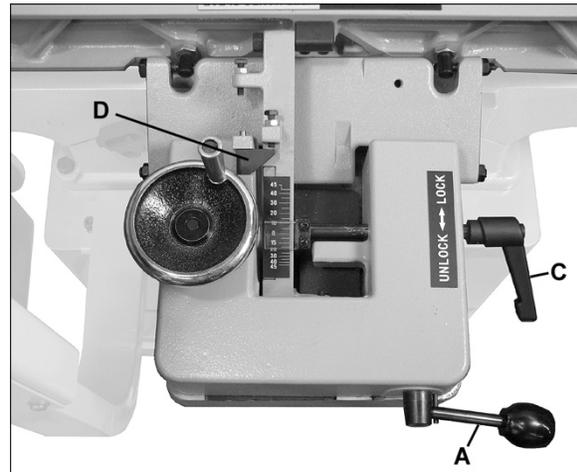
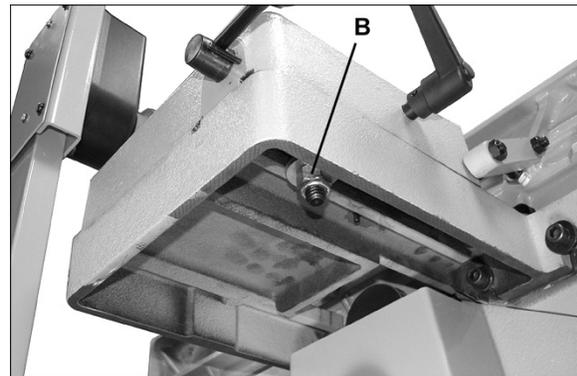

Figure 27
Figure 28
Refer to Figure 27.
NOTE: The lock handle (A, Figure 27) may be adjusted to a more convenient position by loosening the hex nut below the casting (B, Figure 28), turning the handle to the proper position, and retightening the hex nut.
1. Loosen locking handle (C, Figure 27).
2. Place an angle measuring device on the table and against the fence. Tilt the fence to desired angle using the handwheel and tighten locking handle (C) to secure the setting.
2. Flip the stop block (D) out of the way.
3. Tilt the fence to desired angle using the handwheel and tighten locking handle (B) to secure the setting.